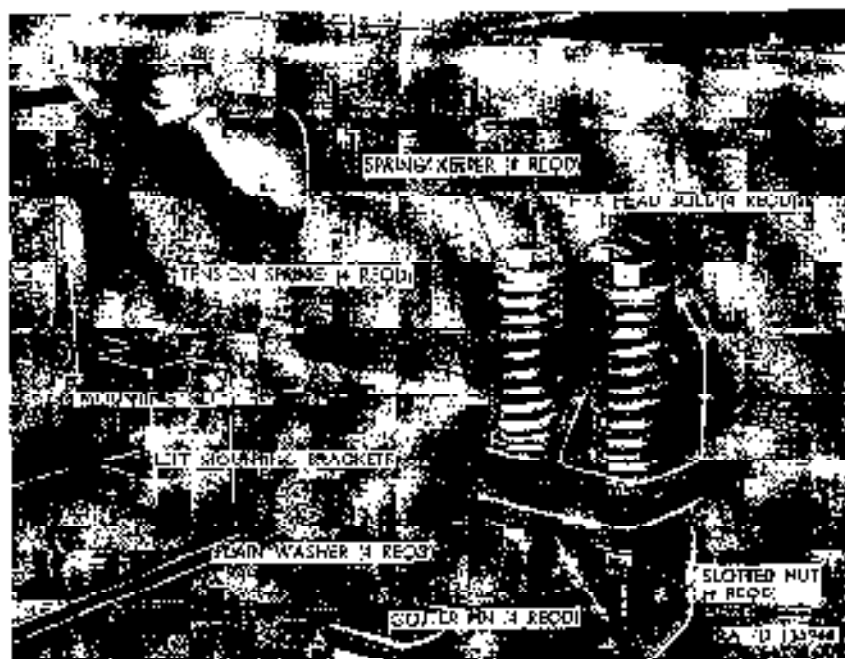

Figure 331. Subjection test point assembly 057.
- (7) Remove two corner pins (fig. 331), slotted nuts, plain washers, tension springs, hex-head bolts, and four spring keepers.
- (2) Align holes in subframe left and right front mounting brackets (fig. 331) with holes in brackets bolted to left and right frame side rails, and secure with four spring keepers, two hex-head bolts, tension springs, plain washers, slotted nuts, and cotter pins.